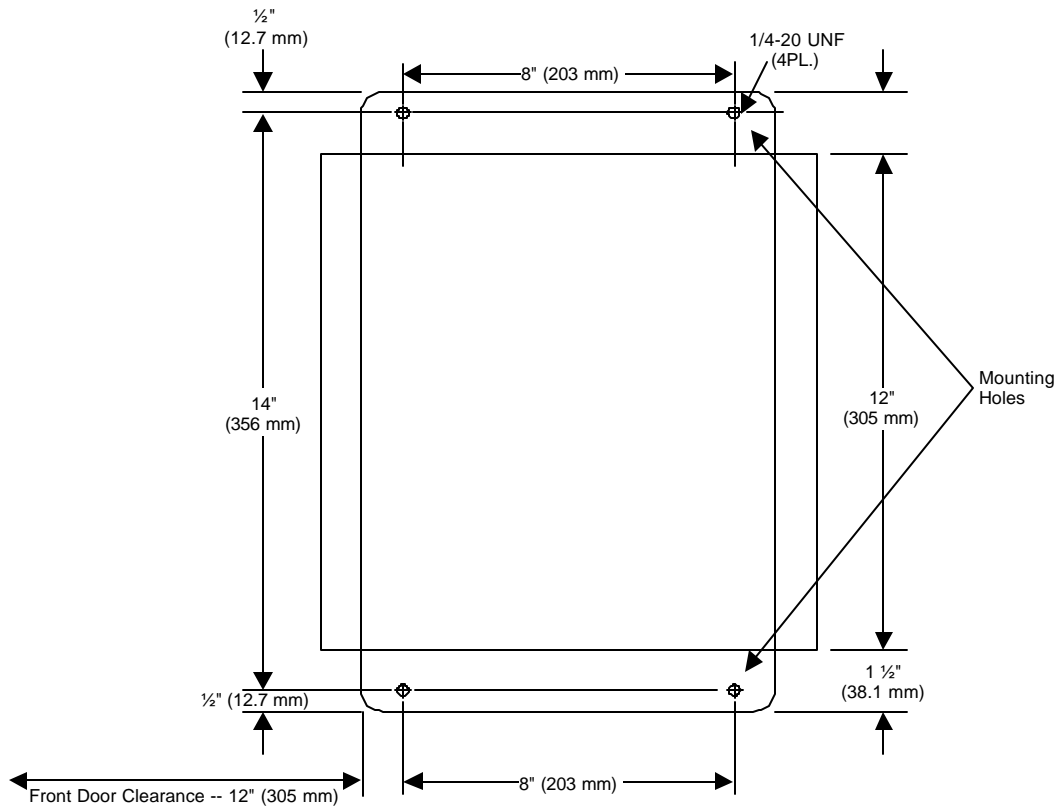

Figure 3-1: LTC-MAP 2130 Monitor Mounting Dimensions
- The mounting surface allows ample space for mounting the stainless steel box and allows for a 12-inch (305 mm) door clearance (see Figure 3-1).
Secure the monitor to the selected location using four ¼-20# stainless steels bolts through the mounting holes (see Figure 3-1).